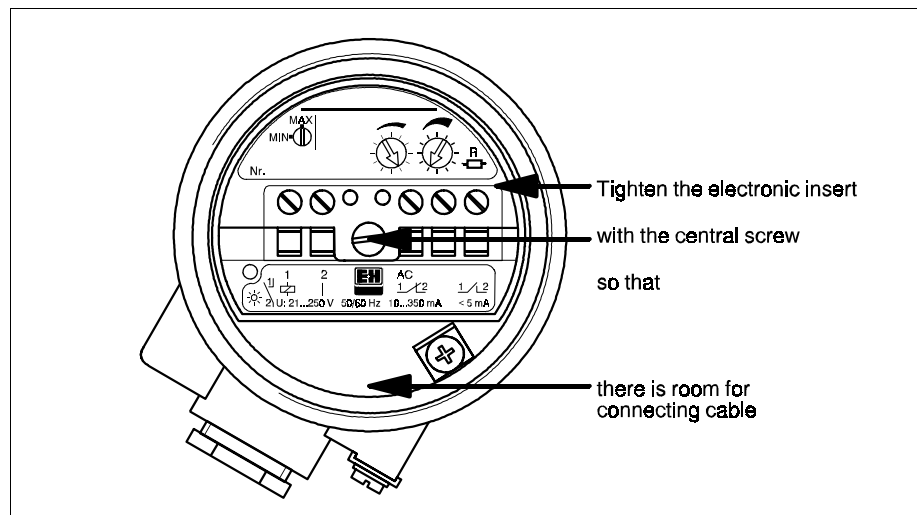

Fig. 14
- Slightly loosen the 3 screws in the housing, see Fig. 14.